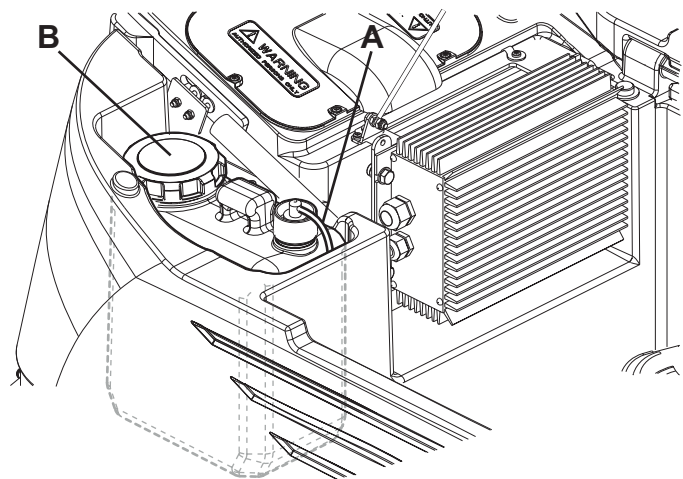

Figure 9
2. Open the cover (20) and check that the recovery tank (19) is empty, otherwise empty it with the drain hose (24). Close the cover (20).
3. Carefully lift the tank assembly (44).
4. Unscrew the plug and disconnect the hose (A, Fig. 9) from the tank (B).
7. Install the tank (42) in the position shown in the figure and connect it to the hose (A).